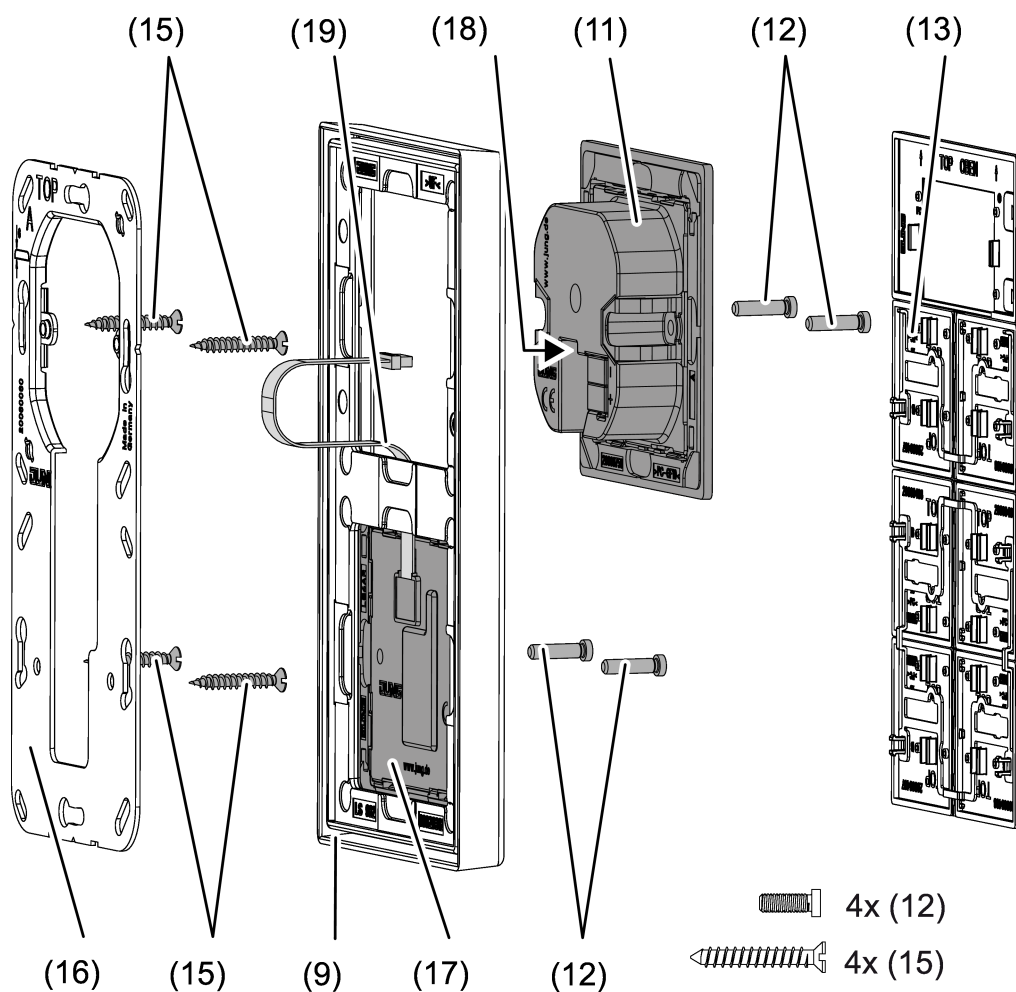

Figure 4: Mounting with push-button sensor extension module
When the push-button sensor extension module is used (see figure 4): preferably mounted vertically. Use large supporting frame (13). When mounting on only one appliance box, countersink the lower screws into the wall, e.g. with a $\varnothing 6 \times 10$ mm hole. Use supporting frame as template.
- Mount supporting frame (8) or (16) in the correct position onto an appliance box. Note marking **TOP** = at top; marking **A** or **B** in front. Use only the enclosed box screws (15).
- Push frame (9) onto supporting frame.
- Mount the push-button sensor extension module (17) preferably below. Route connecting cable (19) between supporting frame and intermediate web.
- Push-button sensor extension module: Insert connecting cable (19) in the correct orientation into slot (18) in the controller module. Do not crimp the connecting cable (see figure 4).
- Connect controller module (11) to the KNX using KNX device connection terminal (14) and push onto the supporting frame.
- Fasten controller module (11) and push-button sensor extension module (15) to supporting frame using the enclosed plastic screws (12). Tighten the plastic screws only lightly.
- Before mounting the operating areas (13), load the physical address into the device (see chapter Commissioning).